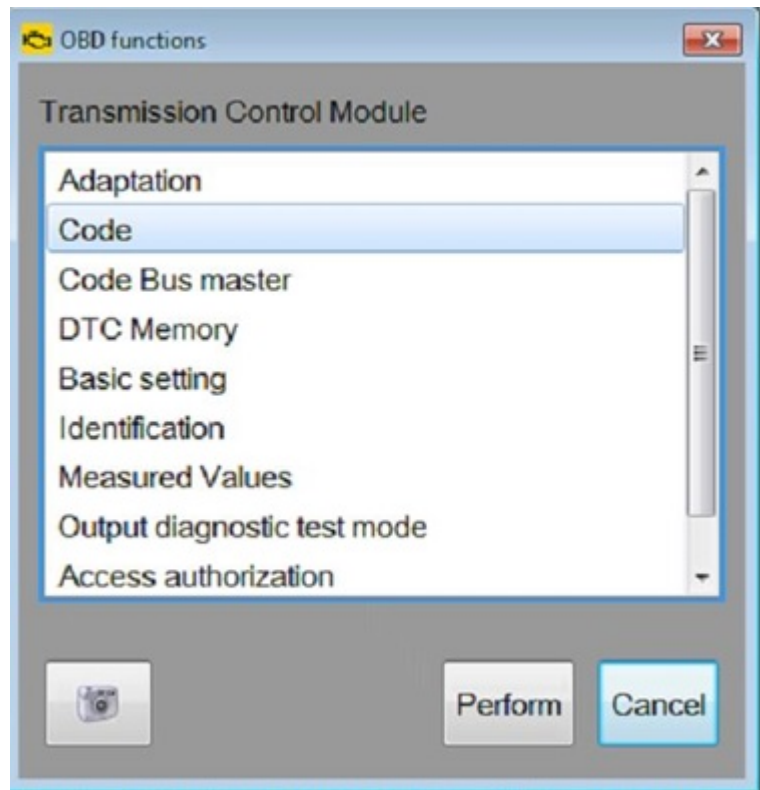

Figure 2. OBD functions menu
5. In the **OBD functions** menu (Figure 2),